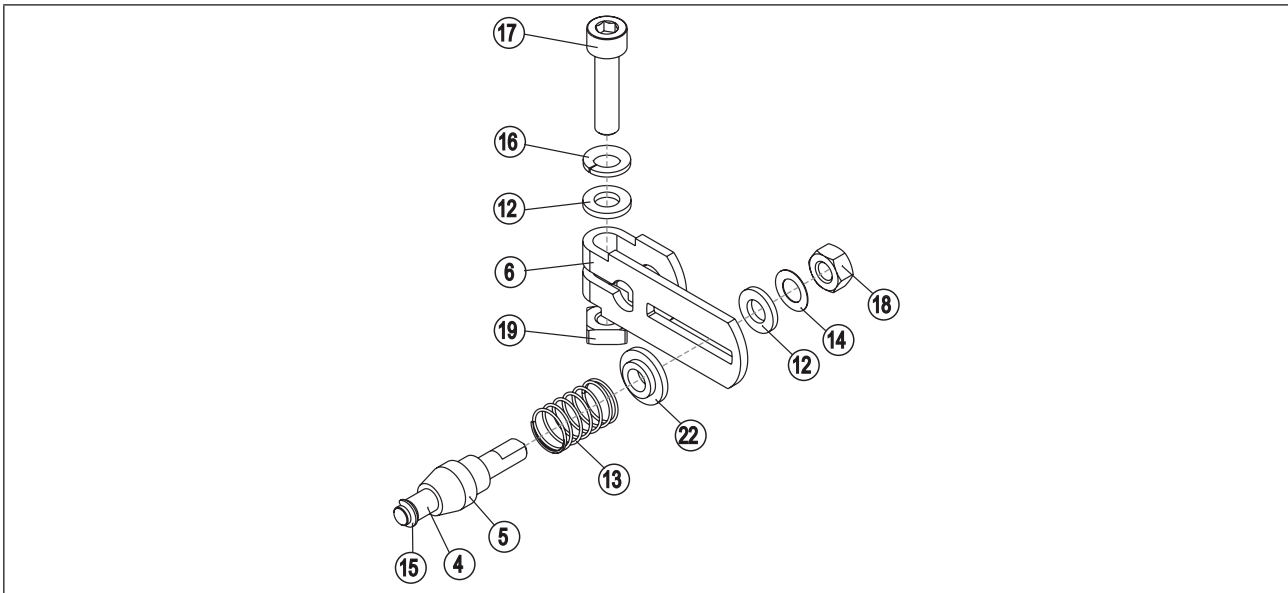

Fig. 23: Lever installation
- Assemble the lever (if not pre-assembled, see “Fig. 23”).